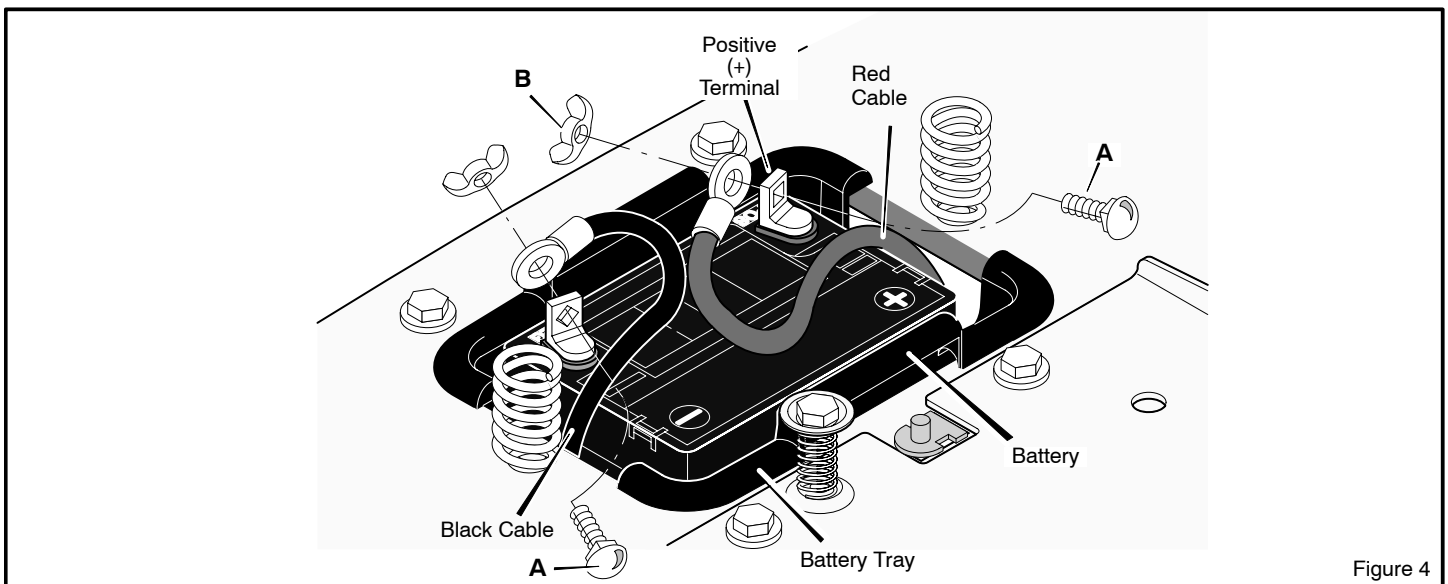

Figure 4
1. Check the top and the side of the battery for the location of the **battery date** (Figure 4).
2. Fasten the **red cable** to the **positive (+) terminal** with the fasteners as shown (Figure 4).